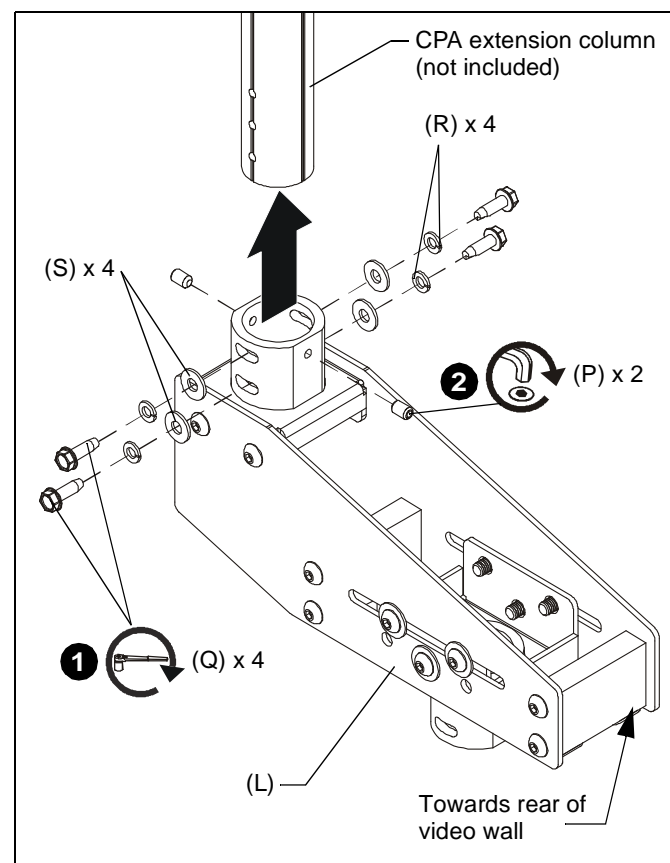

Figure 2
- Secure array offset (L) to extension column (not included) using four 5/16-18 x 1" hex head self-tapping screws (Q), four 5/16" split lock washers (R) and four 5/16" flat washers (S) through holes in extension column. (See Figure 2)
- Install two 5/16" x 1/2" set screws (P) into threaded holes, tightening firmly against column. (See Figure 2)